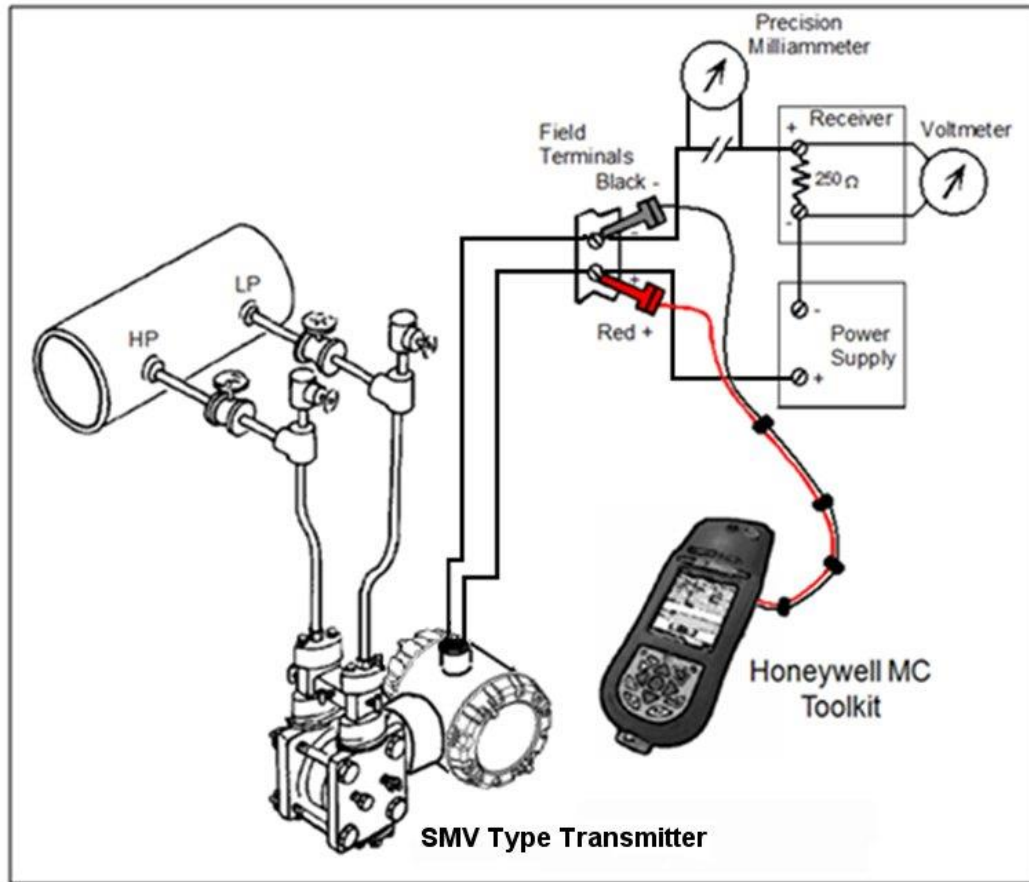

Figure 19 – Current Loop Test Connections
1. Refer to Figure 19 for test connections. Verify the integrity of electrical components in the output current loop.